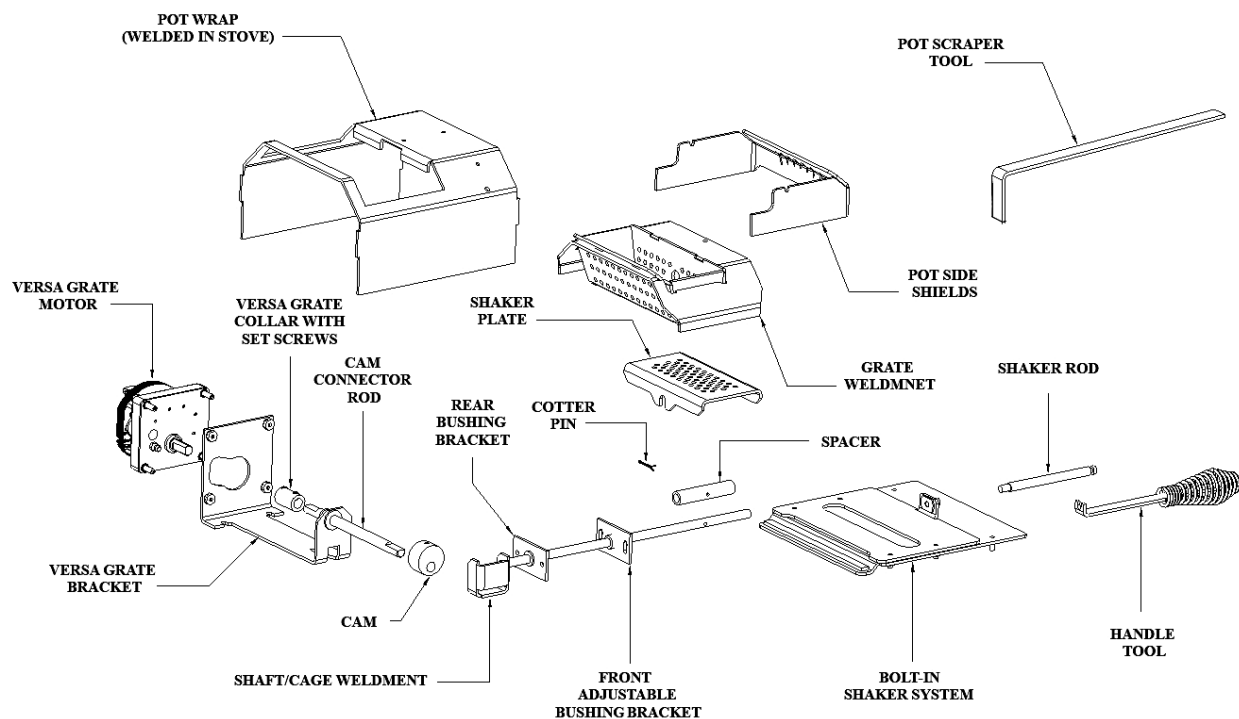

Figure 24
This feature allows the stove to operate for longer periods of time without the grate requiring cleaning. If the flame becomes dark orange, is accompanied by black smoke or burns with a lazy motion - it's time to clean the grate. Frequency of cleaning depends on the amount of fuel being burnt and the quality of the Fuel. Poor quality fuel will require more frequent cleaning of the Versa Grate System shown in figure 24.
- d. Use the “Pot Scraper tool” provided to move the burning pellets to one side of the grate, leaving the ash in the bottom of the grate. (See Figure 24)